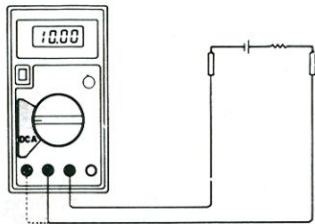

Fig. 5-3 DC Current measurement
2. Set the FUNCTION switch to the DC A range to be used and connect the test leads in series with the load under measurement see Fig. 5-3.